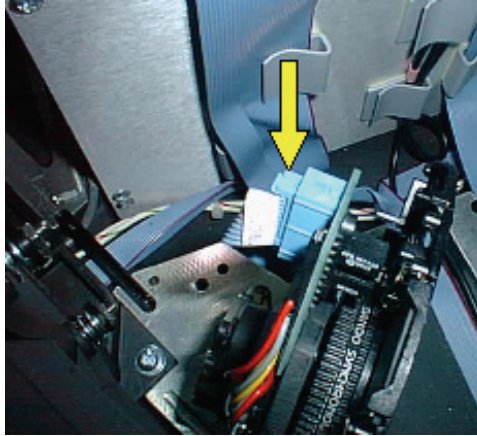

Figure 93 Unplugging the cable
3. Unplug the excitation filter wheel cable, as shown in Figure 93.